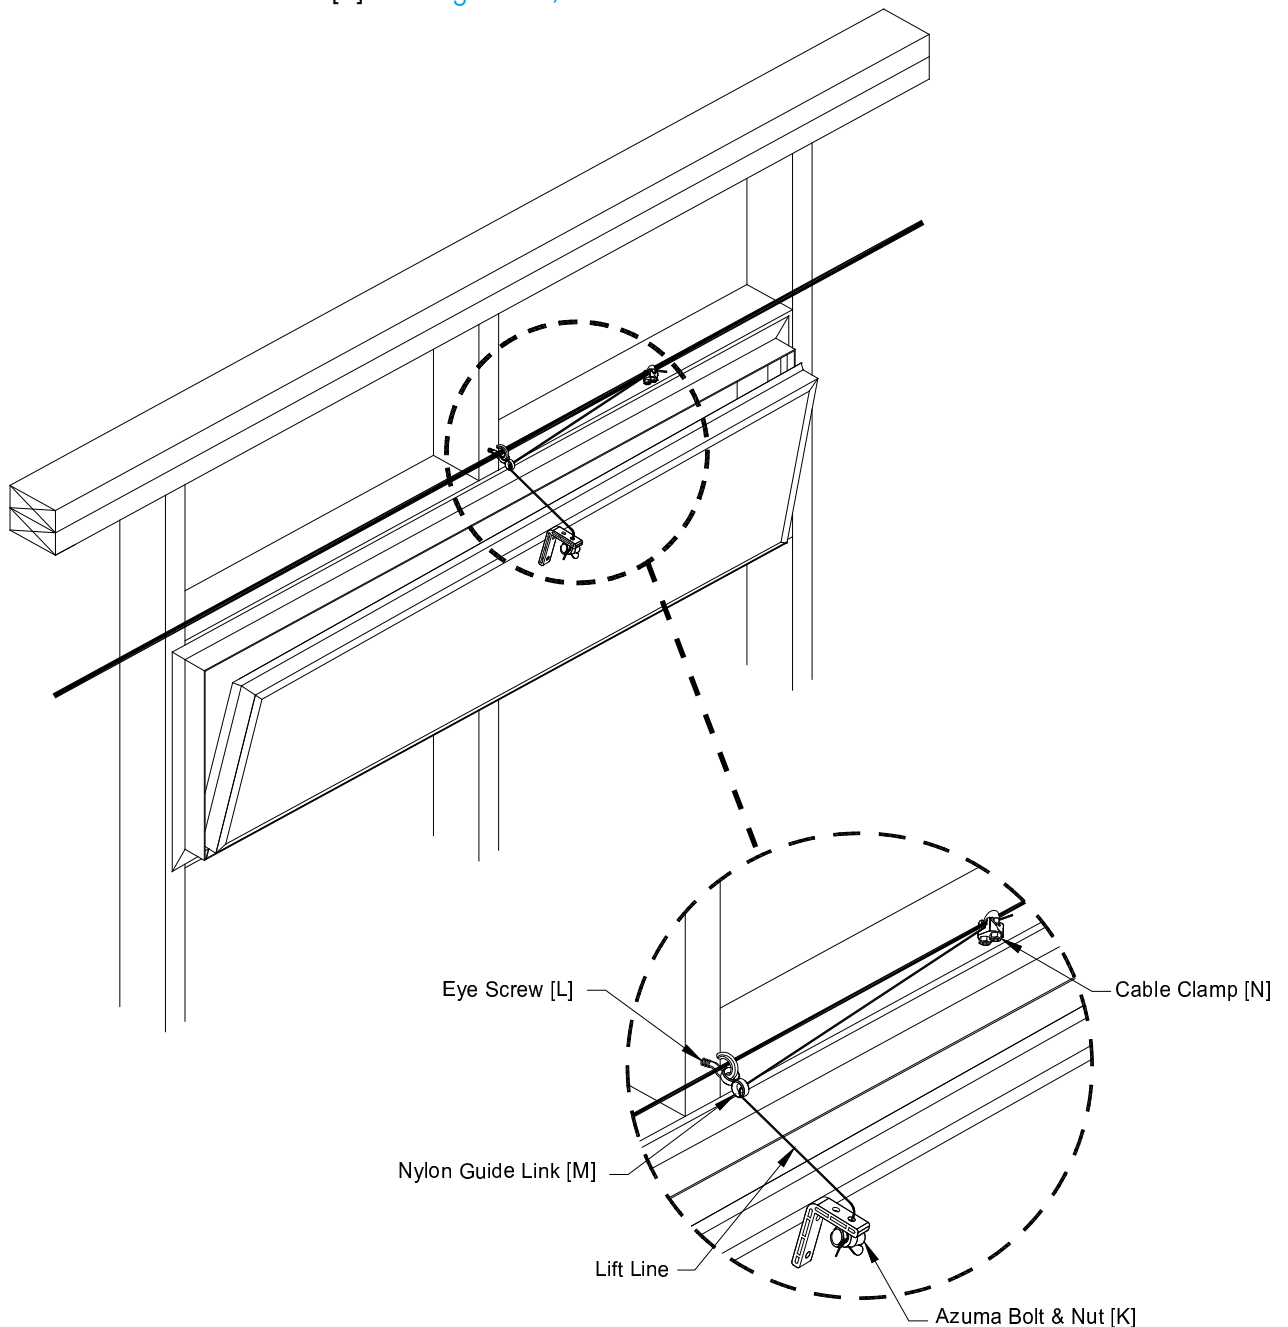

Figure 7A
Put a Nylon Guide Link [M] (black) on each Screw Hook [L] that is directly above the Lift Bracket [A] of each inlet. Attach one Lift Line to Main Cable using (1) Cable Clamp [N]. Lift line should be attached 14" back from hook toward the winch end. Run each lift line through the adjacent Nylon Guide Link [M] and attach Azuma Bolt and Nut [K]. See Figure 7A, 7B and 7C.